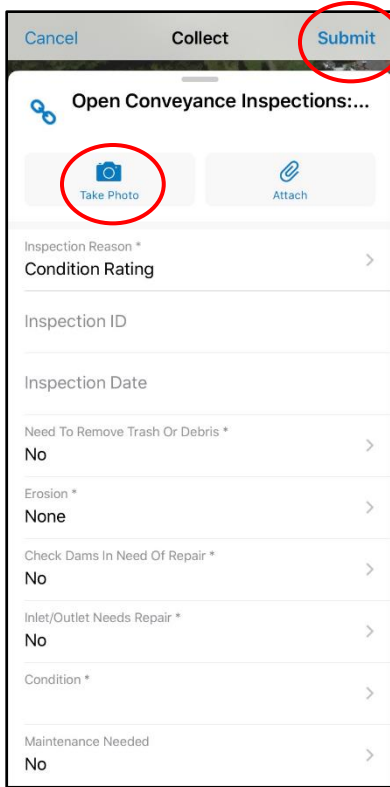

Figure 54. Taking photos and submitting an inspection form in ArcCollector app.
7. Once complete hit "Submit" (Figure 54, below). Repeat this process for all features within the survey area.